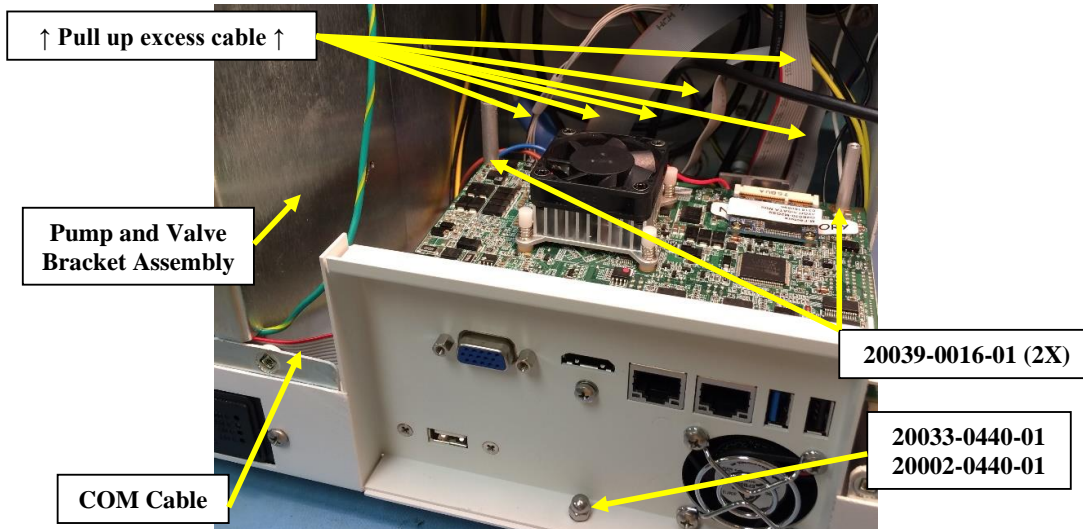

Figure 60
- 20.16. Insert the CPU Assembly into the Chassis, as shown in Figure 60, while pulling up excess cable from the far side of the power supply. Secure the rear of the CPU with two (2) Rounded Standoffs (20039-0016-01). Secure the front of the CPU with a #4 Lockwasher (20002-0440-01) and a 4-40 Acorn Nut (20033-0440-01).
- 20.17. Route the COM cable behind the Pump & Valve Bracket Assembly as shown in Figure 60. Remove any hardware from the protective cover on the DB9 end of the COM Cable. Secure the COM Cable to JP7 on the motherboard with hot glue.